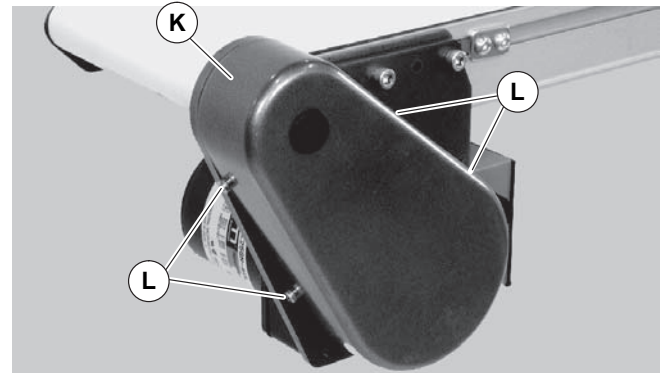

Figure 13
9. Install cover (Figure 13, item K) with four (4) screws (L). Tighten to 35 in-lb (4 Nm).